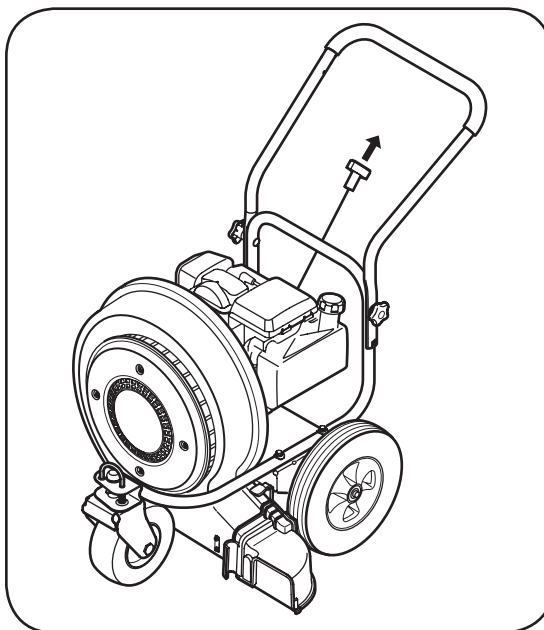

Figure 3-4
4. Grasp starter handle and pull rope out slowly until engine reaches start of compression cycle (rope will pull slightly harder at this point). See Figure 3-4. Let the rope rewind slowly.